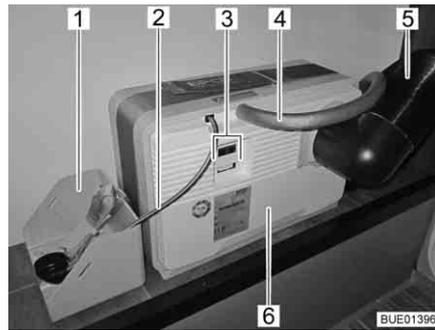
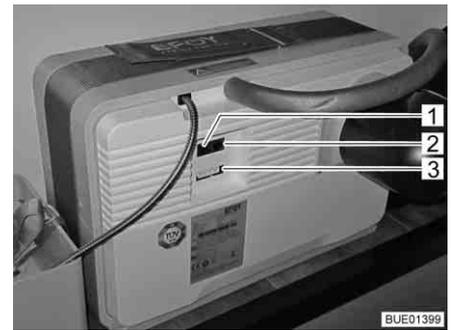
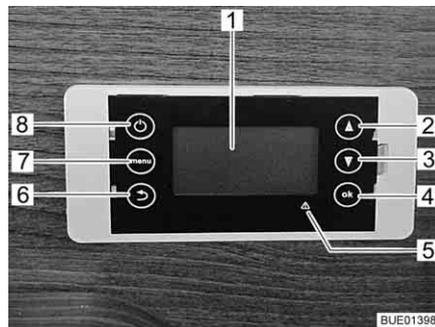

Fig. 158 Fuel cell with tank cartridge
Fig. 159 Connector panel of the fuel cell
Fig. 160 Operating unit fuel cell
The fuel cell consists of several components that are installed in the rear storage space (Fig. 158) and of an operating unit (Fig. 160) in the living area. The following components are on the fuel cell (Fig. 158,6):
- The connector for the air discharge hose (Fig. 158,4) or the filling hole for the service fluid
- the off-heat tube (Fig. 158,5)
- electrical connections (Fig. 158,3) with data interface (Fig. 159,2), device connection (Fig. 159,3) and connection for the operating panel (Fig. 159,1)
A tank cartridge belongs to the fuel cell (Fig. 158,6). It is connected to the fuel cell via a tank connection (Fig. 158,2).
The tank cartridge is firmly fixed in the tank cartridge holder (Fig. 158,1).
The fuel cell automatically charges the living area batteries if their voltage falls below 12,3 V and if the fuel cell is switched on using the On/Off key (Fig. 160,8).
The display (Fig. 160,1) of the operating unit has four lines.
The main menu can be accessed with the menu key (Fig. 160,7):
In the event of faults, the red fault indicator (Fig. 160,5) lights up and a message appears on the display. The message consists of an error code and information on how to rectify the fault.